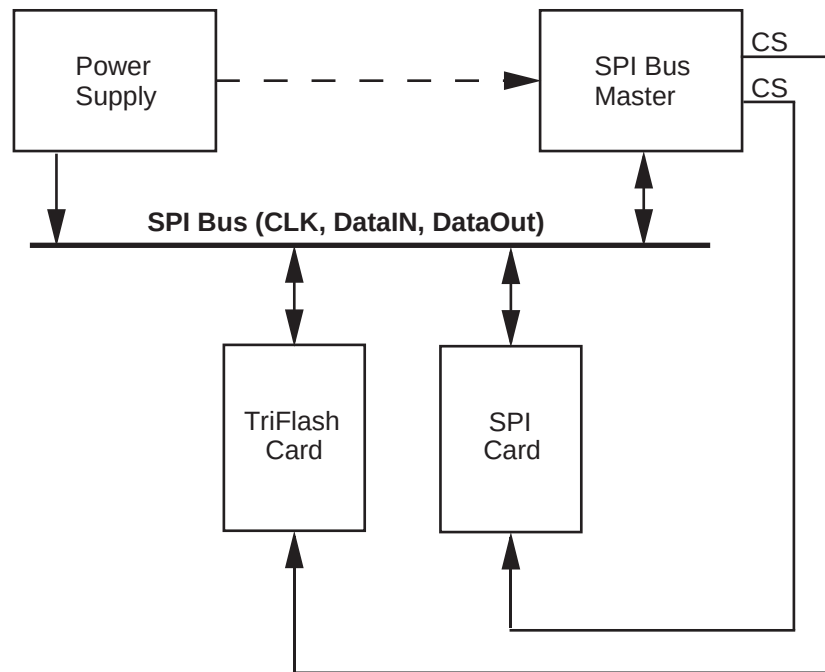

Figure 3-4. SPI Bus System
The TriFlash identification and addressing algorithms are replaced by a hardware Chip Select (CS) signal. A device (slave) is selected, for every command, by asserting (active low) the CS signal (see Figure 3-4).